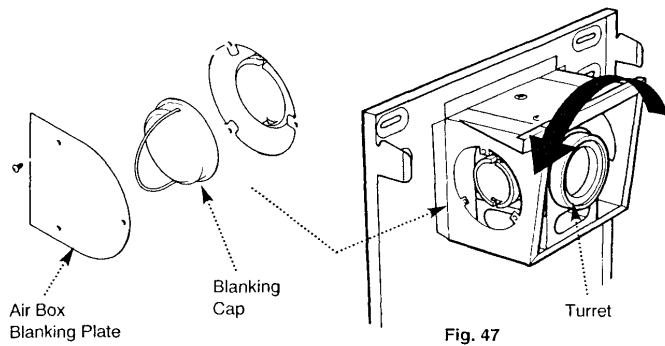
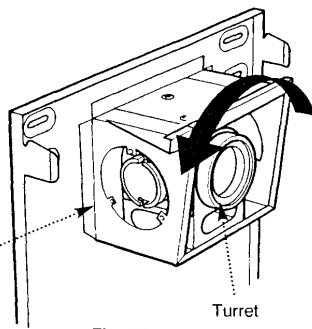

Fig. 46
Fig. 47
1. Remove the left or right hand air box blanking plate, as appropriate, from the back plate air box by releasing the three screws (Fig 46).
2. Rotate the turret to face the selected opening (Fig. 47) and remove the side blanking cap by pushing in and turning anti-clockwise to release the bayonet fitting (Fig. 46).